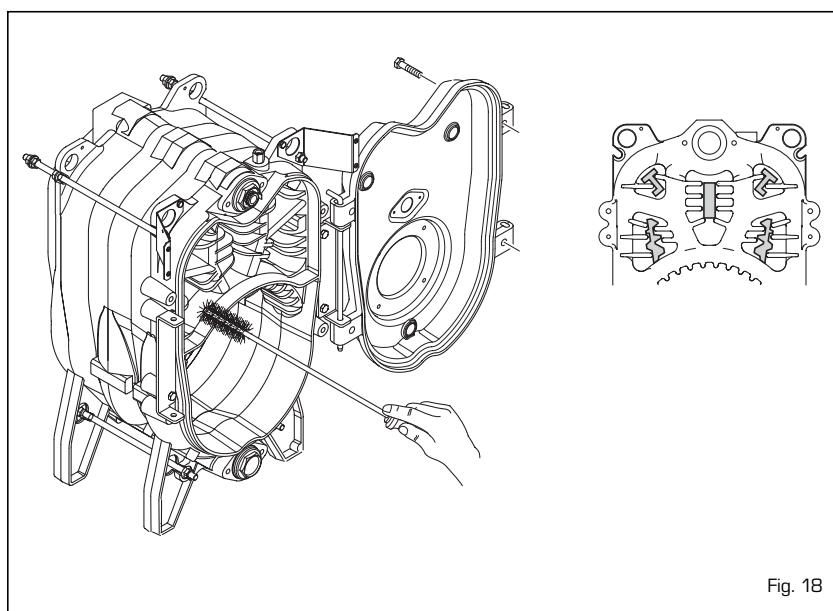

Fig. 18
4.5.1 Cleaning smoke ducts (fig. 18)